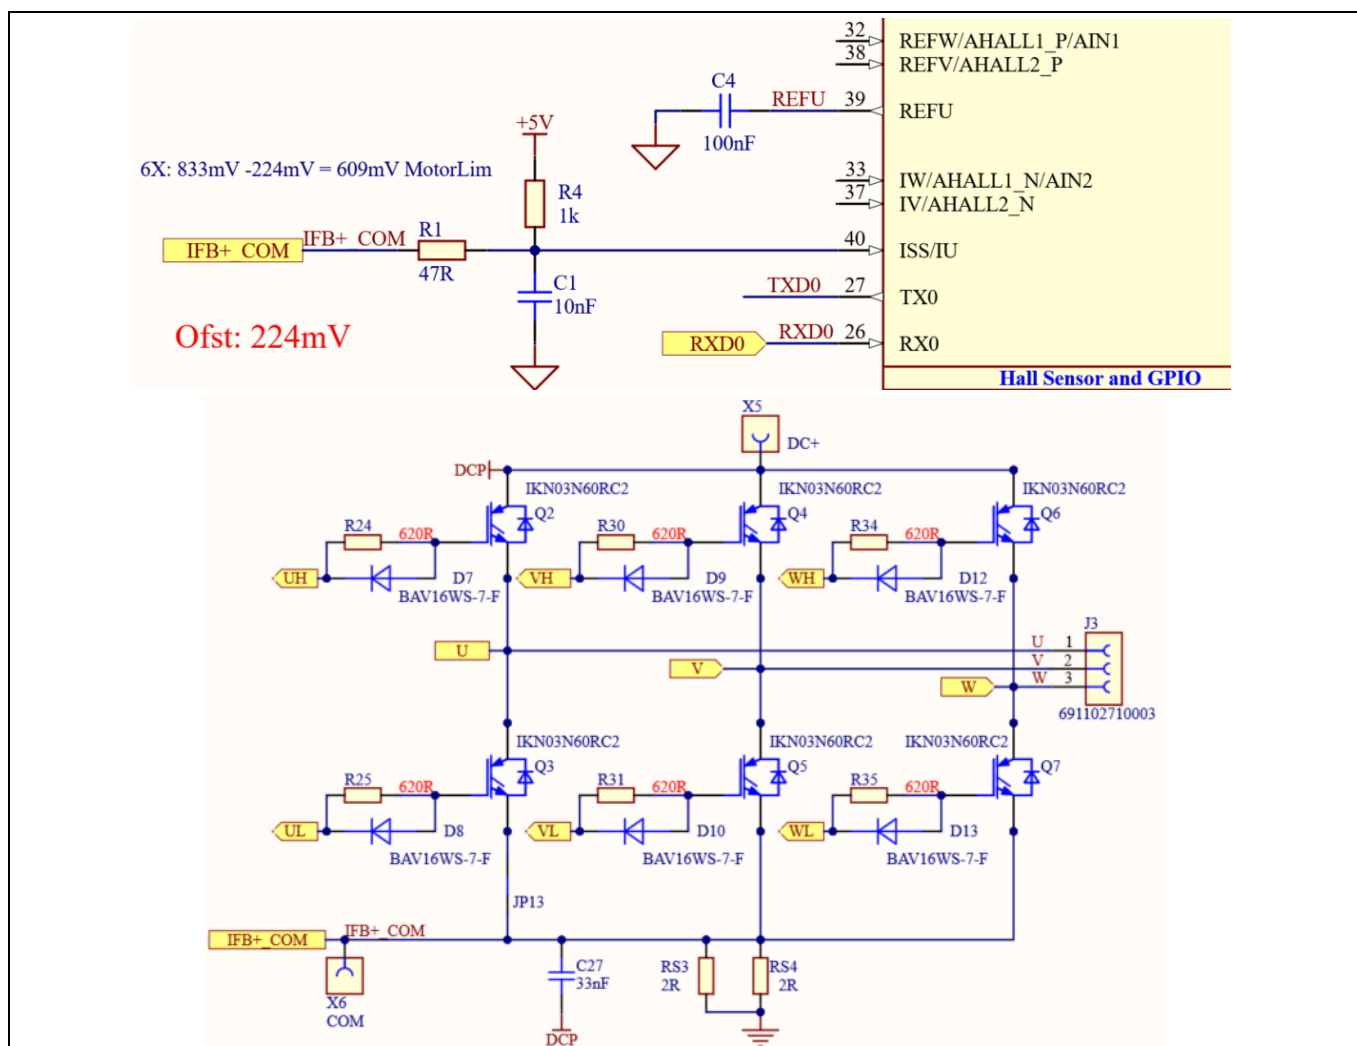

Figure 26 Motor current-sensing circuit on the board
As an example in Figure 26, this board has the following values: $R_1 = R_2 = 47\ \Omega$, $R_3 = R_4 = 1\ \text{k}\Omega$, $R_s = R_{S3}/R_{S4} = 1\ \Omega$, $V_{cc} = 5\ \text{V}$. By using the formula in Eq. 5, the offset is 224 mV, and the gain is $\frac{R_2}{R_1 + R_2} * R_{shunt} = 955\ \text{mV/A}$.
- R_1 and R_4 in Figure 26 determine the ADC operational bias for current sensing, which corresponds to the motor regeneration operation range. For applications that do not work with a regenerative braking mode, the bias can be as low as possible to reserve enough ADC range for the drive mode, since the current in the sense resistance always flows in one direction only. In this example, the offset is 224 mV.